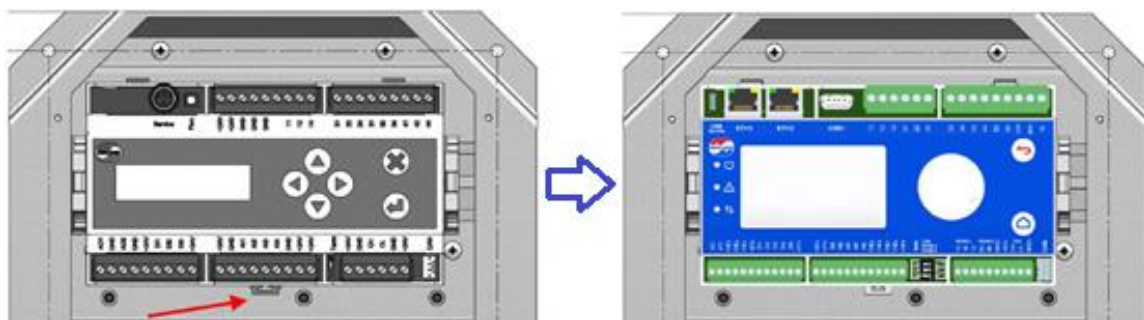

Figure 14: Upgrade from module GMM EC to GMMnext.
- Remove the GMM EC controller using a screwdriver to release the lower mounting clip, highlighted in Figure 14;